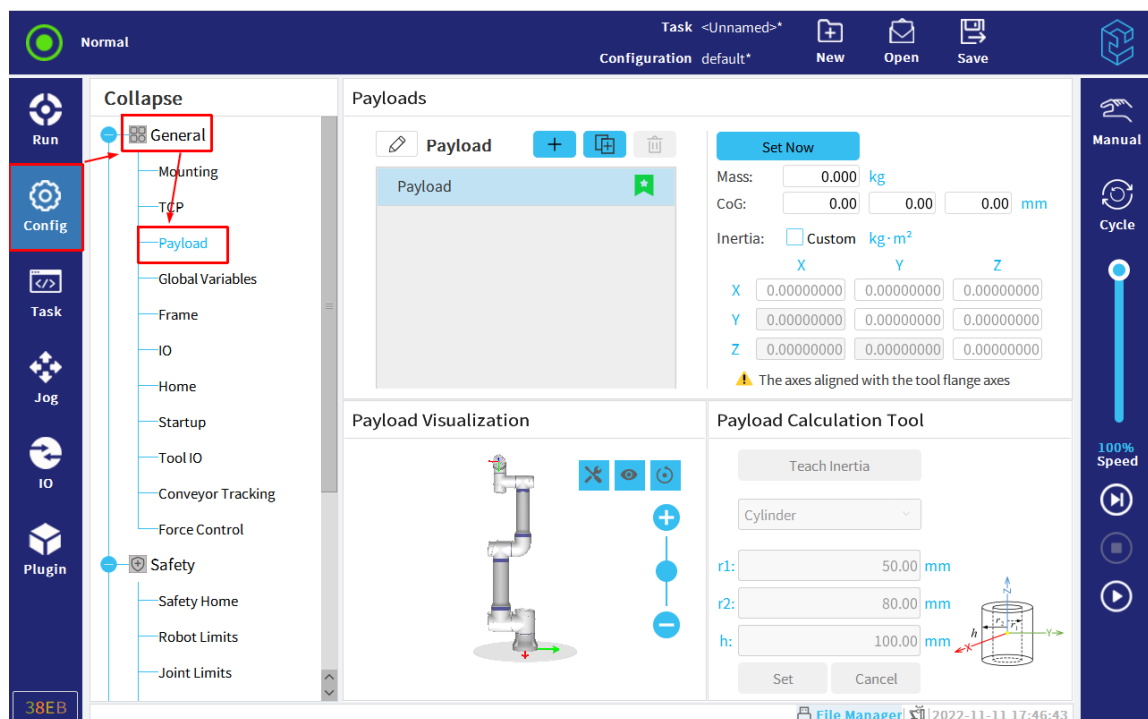

Figure 11-5 Set payload now
The user can specify the weight of the payload and define the center of gravity, and can add, rename, delete, copy and other operations on the payload, as shown in Figure 11-5.
- Immediate setting: click "Set Now", a black check mark will appear, indicating that the payload is activated immediately, as shown in Figure 11-5.